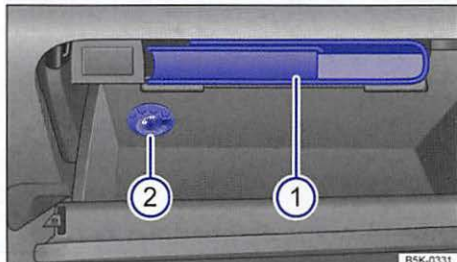

Fig. 97 Inside the glove compartment.
Key to ⇒ fig. 97:
The Owner's Manual is in this glove compartment slot ⇒ fig. 97 ①.